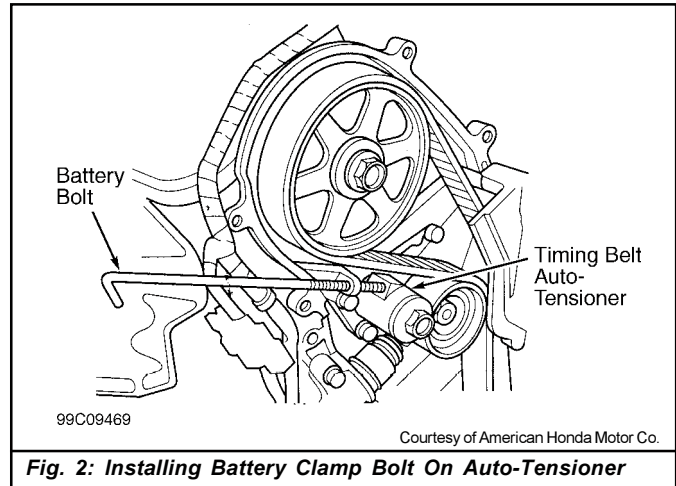

Fig. 2: Installing Battery Clamp Bolt On Auto-Tensioner
- Remove one of the battery clamp bolts from battery tray. Grind threaded end of bolt to a partial point (about 45 degree chamfer). Thread battery bolt into rear cover to hold timing belt adjuster in installed position. Hand tighten ONLY. See Fig. 2.